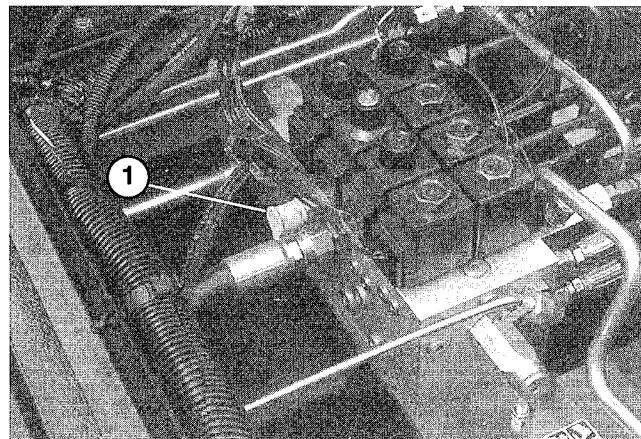

Figure 48
1. Test Port #1 (Fig. 48) is used to assist in trouble shooting the hydraulic circuit for the front cutting units and lift cylinders.